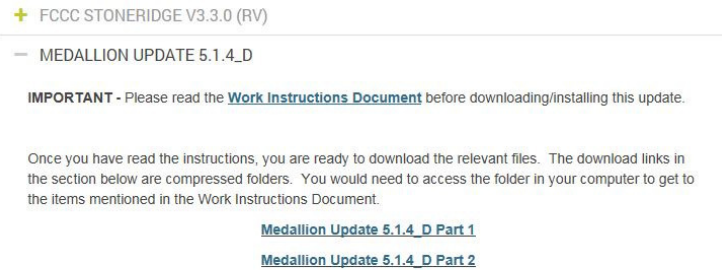

Fig. 2, “Medallion Update to 5.1.4_D Software Update”
3. Click on Download software to the flash drive installed in the port. For example, “Medallion Update 5.1.4_D Part 1” to download software update”. See **Fig. 2**